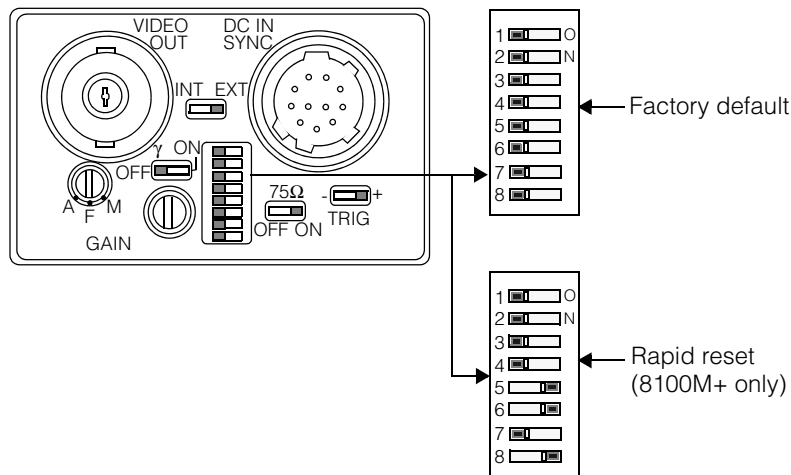

Figure 9. Sony XC-ST50 camera back panel
Figure 9 shows the back panel of the Sony XC-ST50 camera with the switches in their factory default and rapid reset modes (8100M+ only). Note that if you set the XC-ST50 for rapid reset mode, you must also set a jumper on the MVS-8100, as described in *Using Rapid Reset Cameras* on page 17.
1. Configure the 8-position DIP switch as shown in Figure 9.